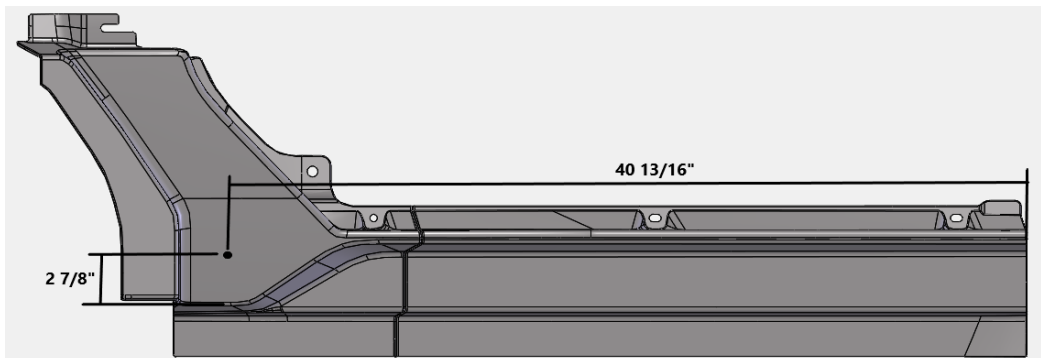

Fig. 1 – Reference for Step 3 (Driver Side Shown)
3. Drill a 9/32" hole 40 13/16" from the rear edge of the rocker panel and 2 7/8" from the bottom of the rocker panel for the ¼" stud to pass through as shown in Fig. 1.